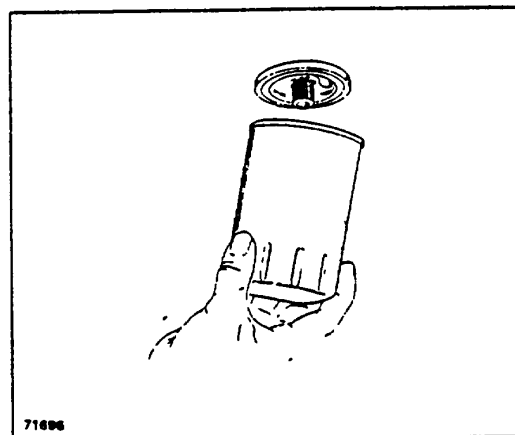

Figure 3-1. Oil Filter Removal
1. Remove and discard filter cartridge and clean out all oil residue in filter base mount (Figure 3-1).